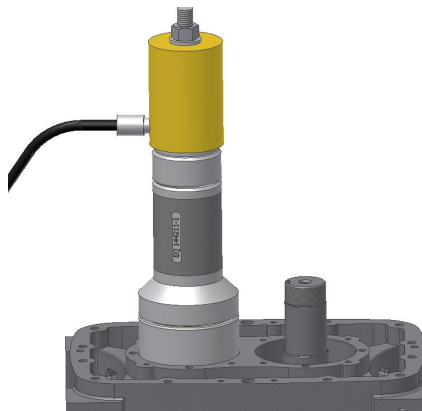

Figure 7-9 – BEARING INSTALLATION
30. Using a depth micrometer, measure and record distance from top surface of outer ring of false bearing to top surface of inner ring. Inner ring of the false bearing should extend above the outer ring .005-.007". If inner ring does not extend above outer ring .005-.007", lower rotor and remove eyebolt and false bearing. Install required shims (8) to achieve proper gear-end clearance. Repeat steps 28-30.
33. Apply AEON PD oil to drive and idler rotor bearing bores in the gear-end bearing housing as well as internal surfaces and rollers of double angular contact bearings (14). Drain excess oil from bearing before installation. Oil should not be dripping from bearing in mounted position.
34. Install bearing by placing bearing over idler rotor shaft with the identification numbers facing up. Thread 3/4" pull rod into end of idler rotor shaft. Place bearing driver EQ144211-1 over pull rod. Place a portable hydraulic cylinder over pull rod and onto driver tool. Install 3/4" flat washer and nut onto pull rod and tighten it up against hydraulic cylinder. Reference FIGURE 7-9. Press bearing onto rotor shaft using hydraulic cylinder.
40. Install spherical roller bearing (13) by placing bearing over drive rotor shaft with identification numbers facing up. Thread 3/4" pull rod into end of idler rotor shaft. Place bearing driver EQ144211-1 over pull rod. Place a portable hydraulic cylinder over pull rod and onto driver tool. Install 3/4" flat washer and nut onto pull rod and tighten against hydraulic cylinder. Press bearing onto rotor shaft using hydraulic cylinder. Reference FIGURE 7-9.